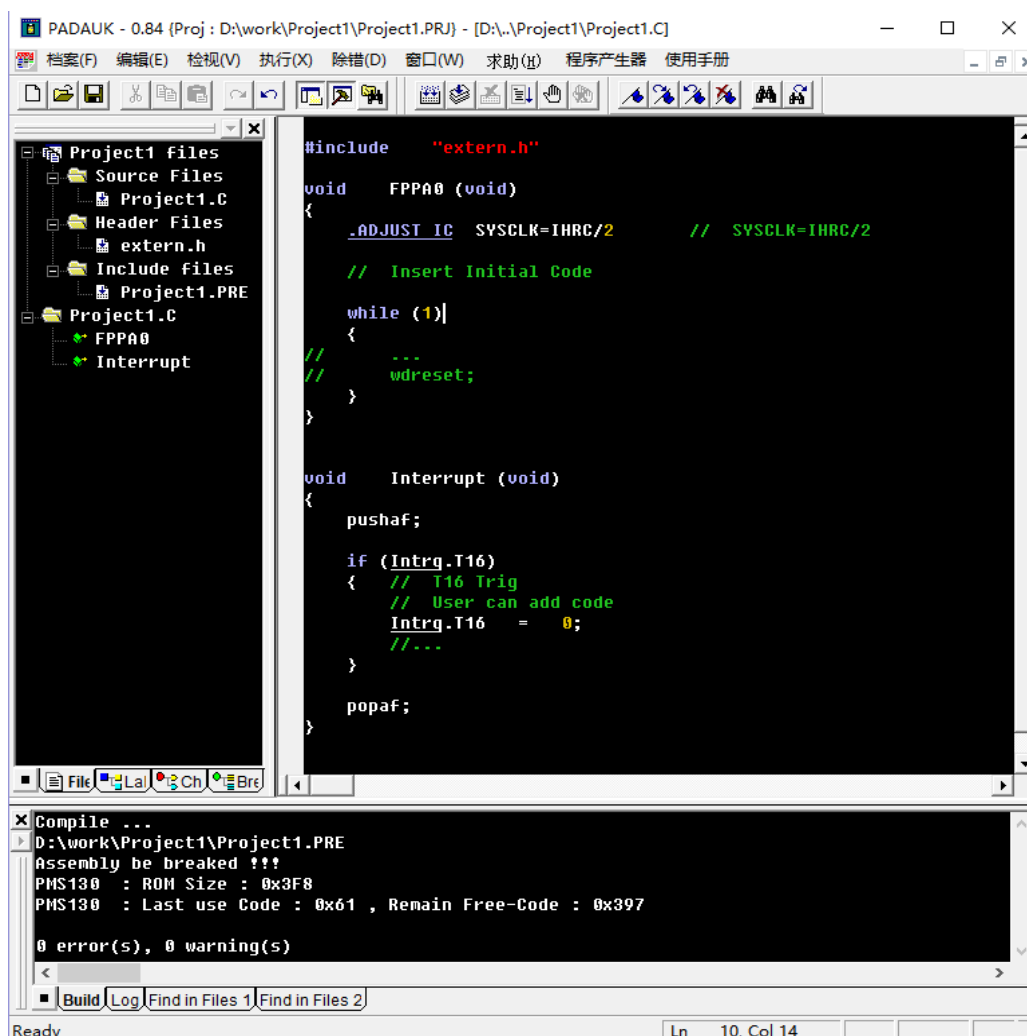

Fig. 3-17 The window screen after the establishment of Mini-C project
4. After the establishment of the Mini-C project, the window screen of the IDE is shown in figure 3-17.